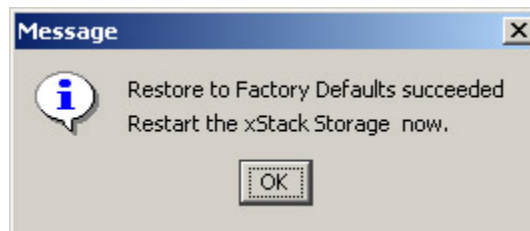

Figure 5-55. Restore to Factory Defaults Succeeded Message
2. Click **Yes** to restore the factory-default settings. (Or click **No** to keep the current configuration.) If you clicked **Yes**, another dialog box asks whether you want to keep the current management port configuration settings. Click **Yes** to keep them and proceed, **No** to revert to the default management port settings and proceed (refer to Section 5.2.1), or **Cancel** to cancel the operation. If you clicked **Yes** or **No**, the XStack Storage loads the factory-default settings (including those for the management port if you clicked **Yes**) and the message in Figure 5-55 appears.